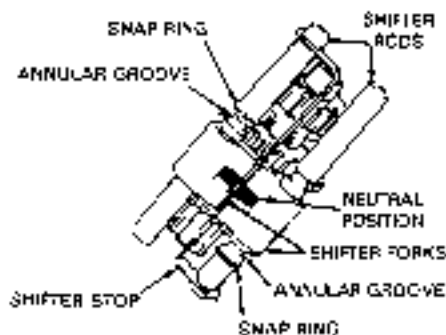

Fig. 1—To position shifter assembly in neutral for reassembly, align notches in shifter forks with notch in shifter stop.
Clean and inspect all parts for damage or excessive wear and renew as required. When installing needle bearings, press bearings into case and cover from inside and bearings are 0.015-0.020 below thrust surfaces. Renew all seals and gaskets and reassemble transaxle assembly by reversing disassembly procedure and noting the following points: Install reverse idler gear (27) in case so that rounded edge of gear teeth and spacer (26) will be toward cover. When installing idler shaft (31), place short spacer (35) between gears (34 and 36) and long spacer (33) between gears (32 and 34). Bevels on gear teeth of gears (32 and 34) must be on side of gear nearest large gear (36). When installing shifter assembly, position shifter rods in neutral position as shown in Fig. 1.